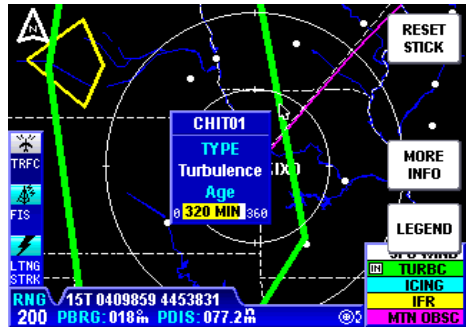

Figure 2-36
3. To view a specific AIRMET, move the joystick in the desired direction and place the pointer on the desired AIRMET border (see Figure 2-36). A box will pop up containing the AIRMET designator, **TYPE** and the **AGE** of the report.